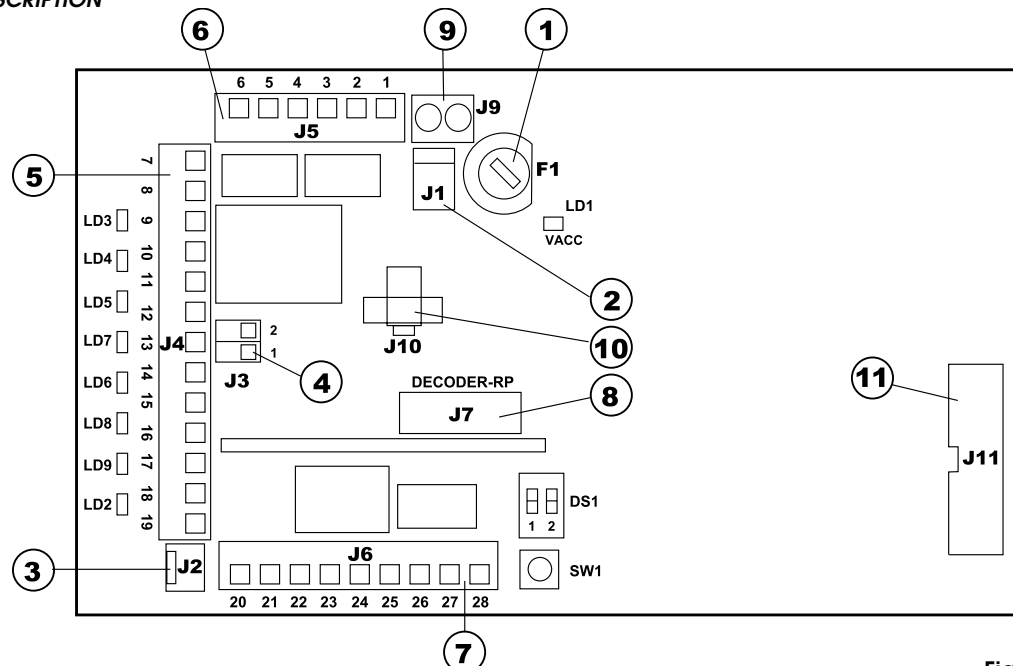

Fig. 10
① FUSE F1 1AT/230Vac - 5x20
② J1 CONNECTOR Transformer Secondary winding - fig. 10
③ J2 CONNECTOR